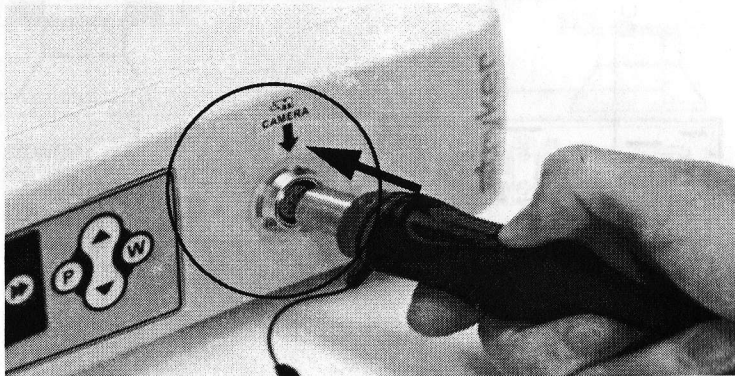

Figure 4: Connecting the camera head to the console
- Align the blue arrow on the cable connector with the blue arrow on the camera-connector port on the front console panel (see Figure 4).